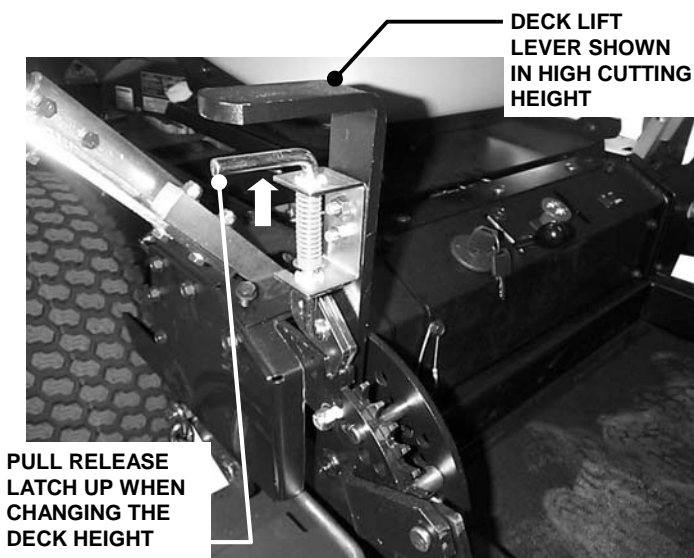

FIGURE 3.9
1. Adjust cutting height, as desired, to any position, using deck lift lever. The release latch should be pulled up when lowering the deck. When raising the deck, the release latch does not have to be pulled up. **IMPORTANT:** There is a foot assist pedal located to the right front side of the footrest. Always use this assist pedal to raise or lower the deck to the desired cutting height. See Figure 3.9 & 3.10.